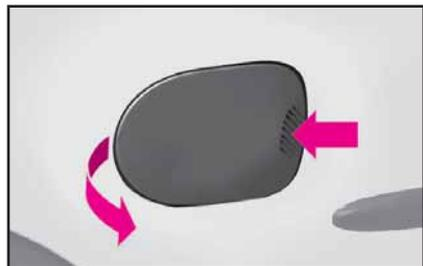

fig. 90
- 1) press on the point indicated and open the flap **fig. 90**;